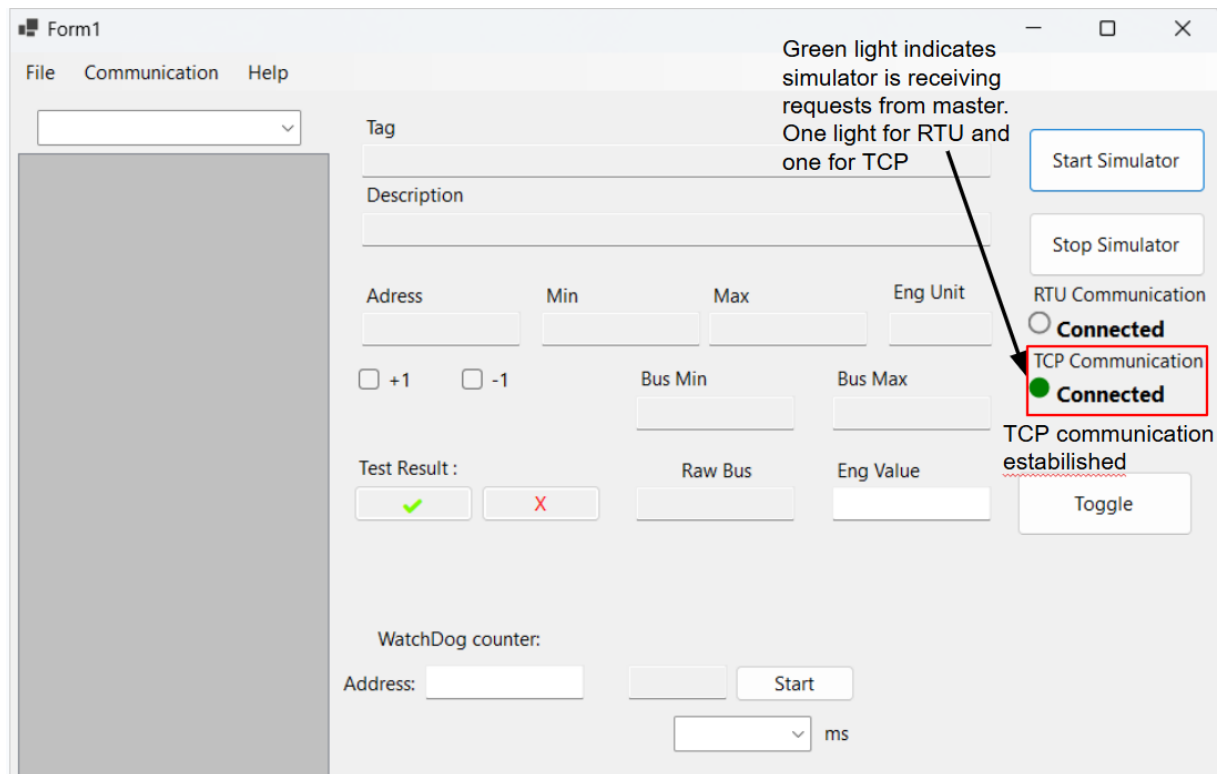

Figure 4 – Slave is connected and receiving requests from master on TCP side
7. Press “Start Simulator”, when simulator is receiving requests from RTU or TCP side the “Connected” checkbox will be lit green as shown in figure 4